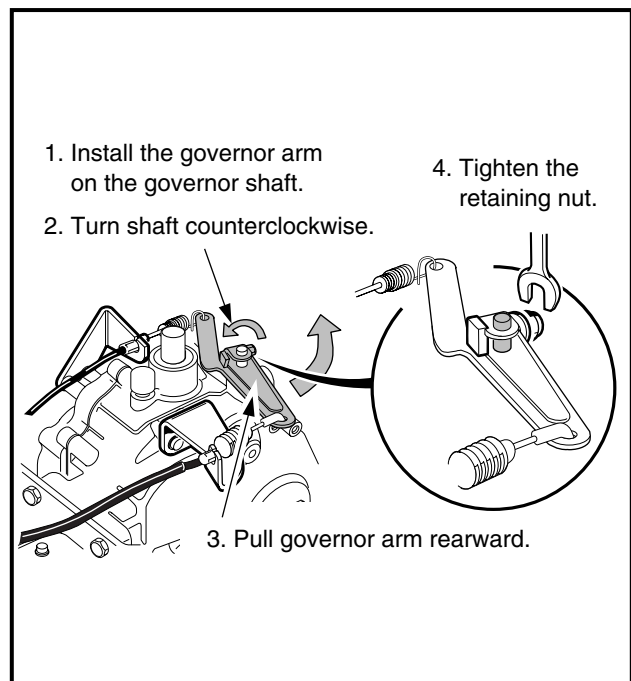

**Figure 16-41 Accelerator Cable Bracket**
- 7.2. Install two bolts (2) to secure cable bracket to the transaxle case and tighten to 134 in-lb (15.1 N·m).
8. Install the accelerator cable bracket to transaxle case and tighten screws to 134 in-lb (15.1 N·m) (**Figure 16-41, Page 16-17**).